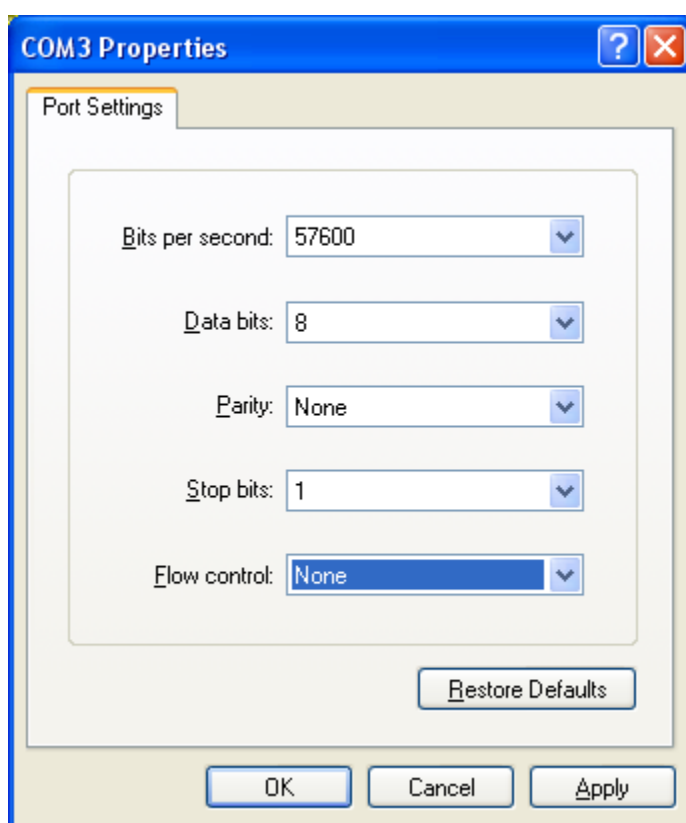

Figure 1-2 • COM Port Properties
3. Enter the following values for the properties (Figure 1-2):